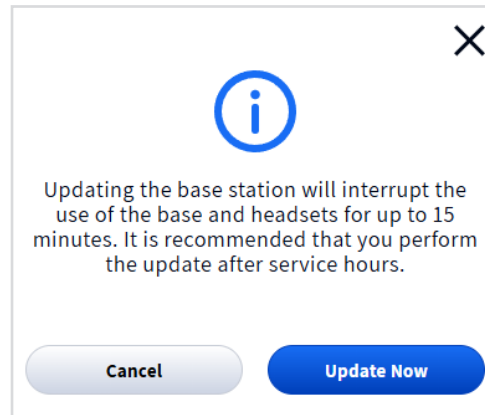

Fig. 6.7
5. A prompt appears (Fig. 6.7) informing you that the update will interrupt the use of the base station and headset and takes up to 15 minutes to update. Tap/click the Update Now button to continue. The update begins and provides a progress status. The red exclamation mark also disappears. Or, tap Cancel if you decide to update at another time, perhaps after hours or during slower business hours.